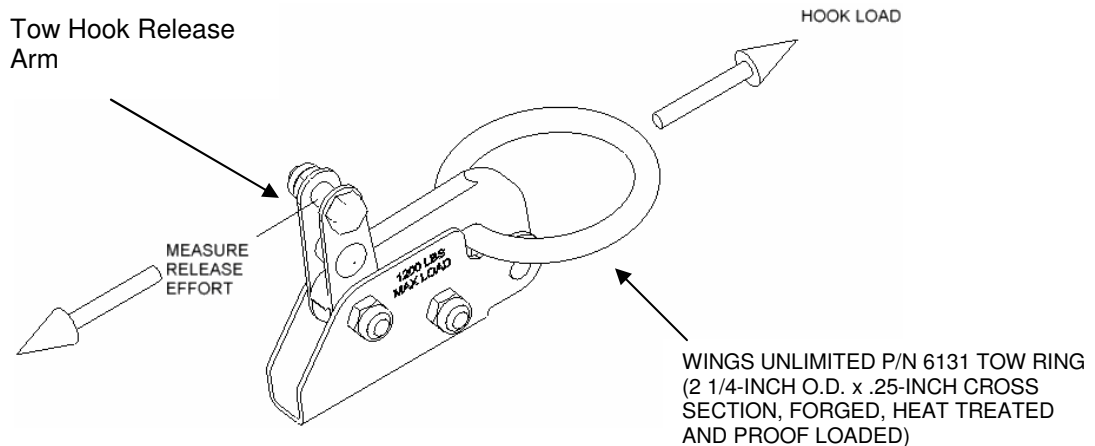

Figure 2.
*: Wings Unlimited P/N 6131 Tow Ring must be latched in tow hook for test as shown in Figure 2.